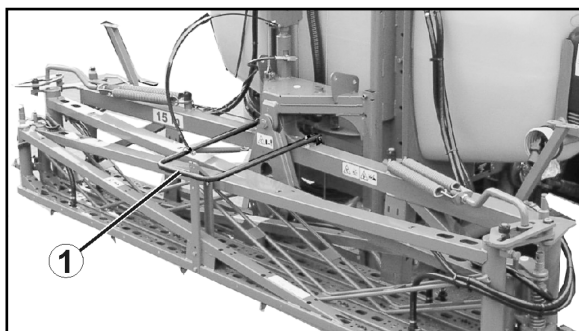

Fig. 6
- Left and right-hand parking supports (Fig. 6) to prevent the machine from falling over when parked